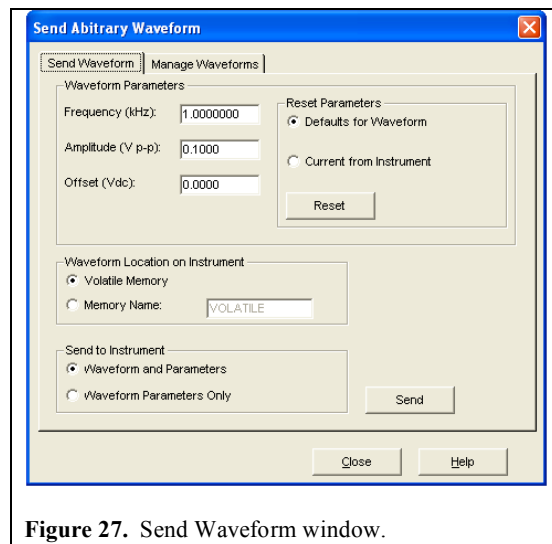

Figure 27. Send Waveform window.
8. The resulting window in Figure 27 will allow modification of the waveform parameters. If the waveform is to remain available after the 33220A has been turned off, save the waveform with a Memory Name to store it non-volatile memory, otherwise, save to waveform to Volatile memory.